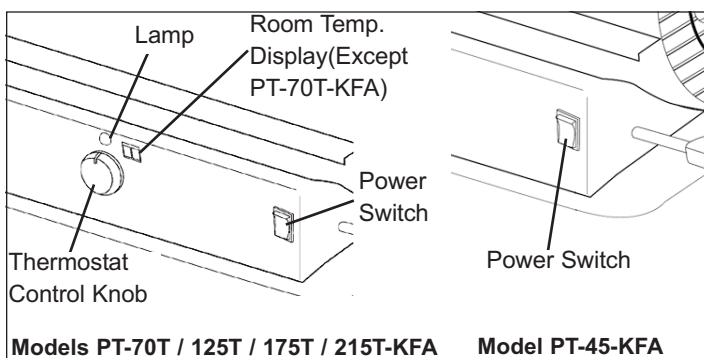

Figure 9: Control Panel for all models
4. Turn thermostat control knob to desired temperature setting (70/125/175/215 only). The setting range is from 40° F to 110° F. Push the Power switch to the "ON" position (See figure 9). The power indicator lamp and room temperature display (125/175/215 only) will light and the heater will start.